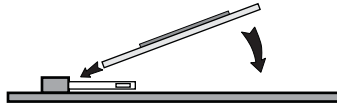

Figure 6 MediaCache Memory Module
6. Gently slide the new MediaCache Memory Module down at an angle into the Memory Socket you just removed the memory module from (**Figure 6**).